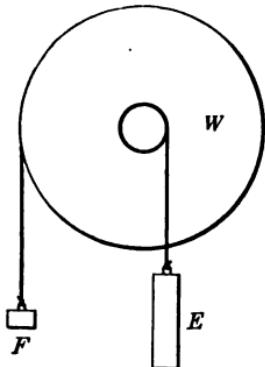

FIG. 90
3. *The Wheel and Axle* (Fig. 90). A glance at the figure shows that a small force, *F*, applied to the wheel *W*, will move a large weight, *E*, applied at the axle. Also a large force at the axle will cause a smaller weight on the wheel to move more rapidly. The rate of gain in either case would be as the circumference of one wheel is to that of the other. Or they might both be considered as lever arms, each arm being the distance from the center to the circumference.